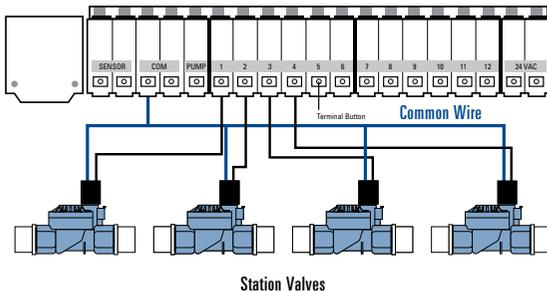

Figure 5: Connecting Sprinkler Wire
- Connect one wire from each valve (it doesn't matter which wire) to a single "common" sprinkler wire. This is usually white. (See Figure 5)
- Determine which valve you want to connect to which station. Insert each sprinkler wire, excluding the “common” wire, into a separate station socket (numbered above each socket) by inserting the bare wire fully into the socket under each number. (See Figure 5)